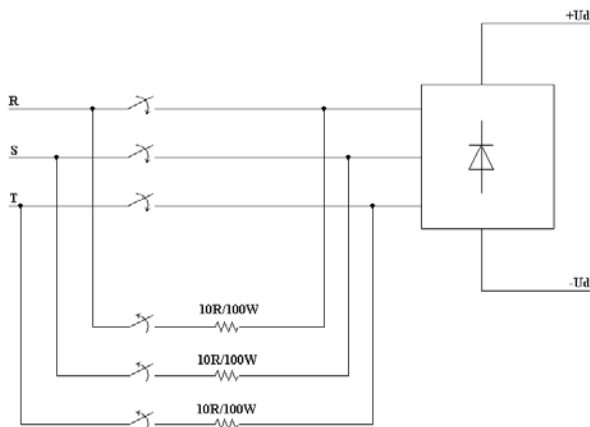

Figure 14 - Preload Circuit
- ☑ If the inverters are supplied directly by the DC Link, provide an external preload circuit (Fig. 14). For more details about the circuit dimensioning, please contact WEG Automação.
- ☑ The micro-switches and the thermostats of the coils must be interconnected to the drive fault chain in such a manner if one fuse blows, or the temperature of one coils exceeds 140°C, an external fault is indicated. This may be realized by using a digital input of the CFW-09. For more details, refer to the Frequency Inverter Manual (Fig. 14)